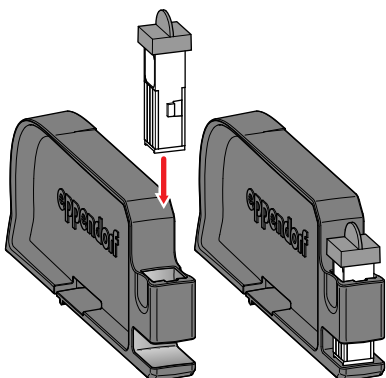

Fig. 4: Insert the electroporation cuvette
- Place the electroporation cuvette in the cuvette mount with the plastic nose pointed towards the back (Fig. 4 on p. 17).